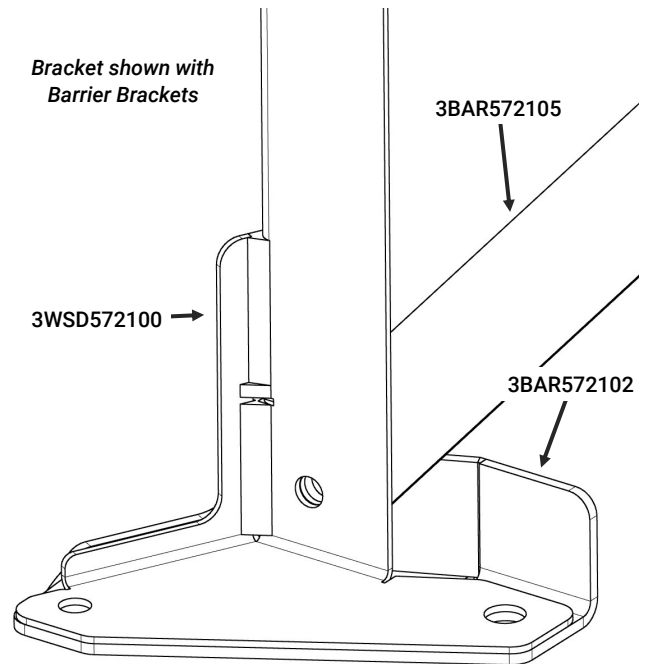

Figure 3
- C. Position the Driver Rear Storage Drawer Bracket [3WSD572100] as shown in Figure 3. Loosely secure in place with the OEM fastener that was removed in step A. and a M10 bolt [3X254]. If installing with a Barrier, position the Barrier Support Bar between the Lower Barrier Bracket and the Rear Storage Drawer Bracket and loosely secure with the fastener and nut that were removed in step B (Fig. 3).